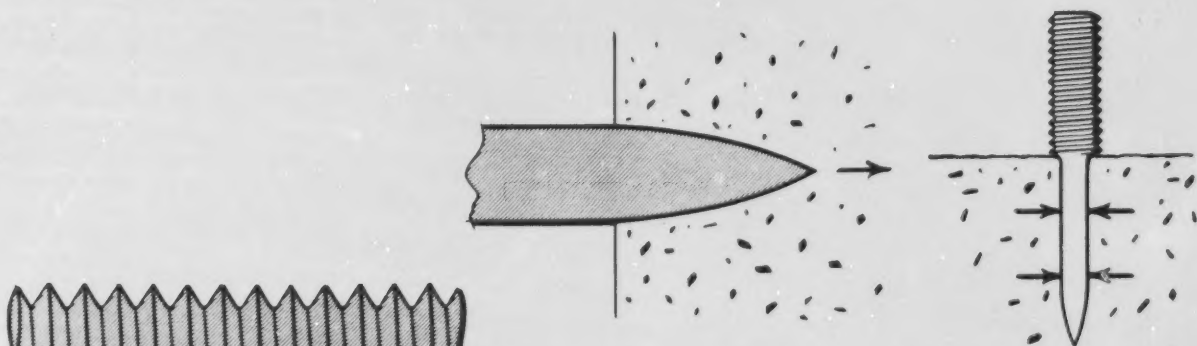

Figure 20-2. Penetration and Holding Power of Fastener
b) The point of the fastener is designed to force the base materials aside just enough to let the fastener penetrate and seat properly, but not enough to cause excessive deformation. This produces a compressive force by the base material that squeezes the shank of the fastener and provides its holding strength, as illustrated in Figure 20-2.